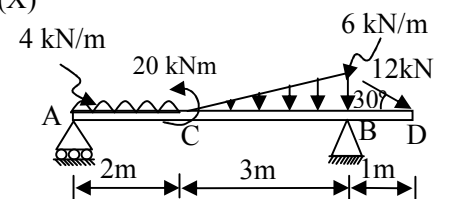

Fig. 12 Que 5(b) OR
- (b) A beam is loaded as shown in **Fig. 12**. Determine support reactions at supports A and B. Also identify type of beam. **05**